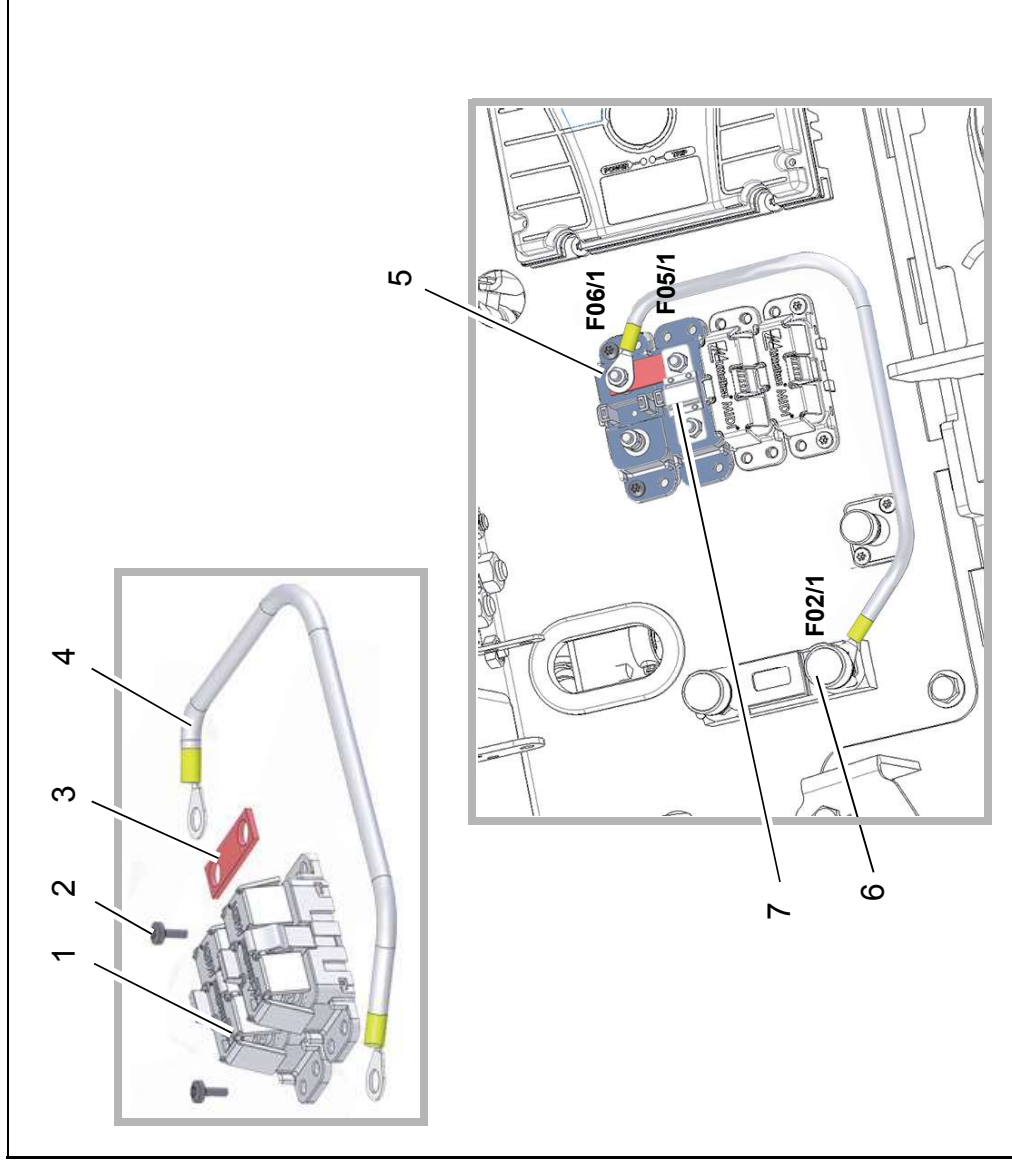

Fig. 4
- 2x fuse holder (Fig. 4/1)
- 2x screws M4x10 (Fig. 4/2)
- 1x conductor rail (Fig. 4/3)
- 1x WS5 cable set (Fig. 4/4)
3. Connect cable set WS5 with connector F06/1 (Fig. 4/5) and connector F02/1 (Fig. 4/6).
Mount the fuse insert to the connector F05 (Fig. 4/7).